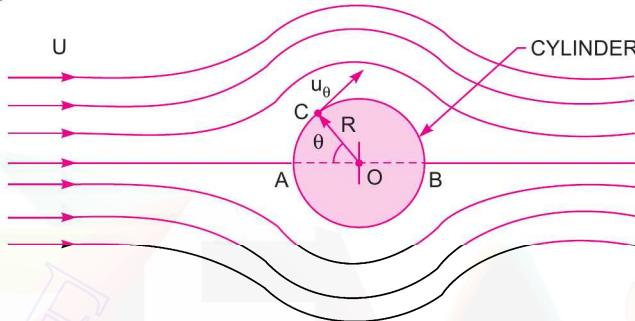
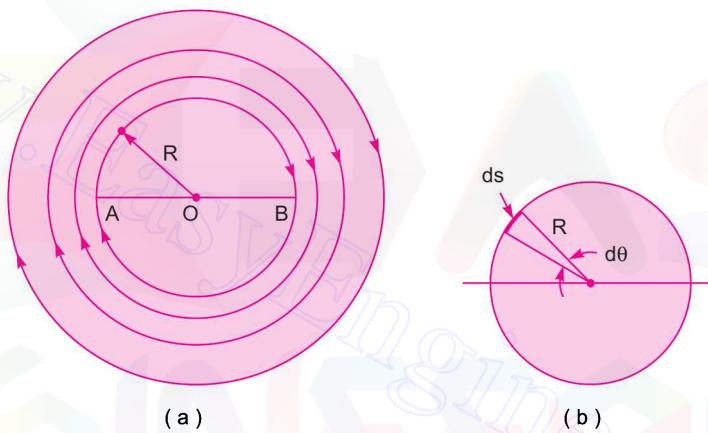
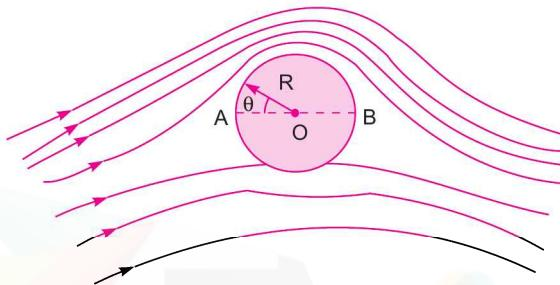

Fig. 14.9 Flow of ideal fluid over stationary cylinder.
Fig. 14.11 Stream-lines for free vortex.
Fig. 14.12 Flow pattern over a rotating cylinder.
**14.7.1 Flow of Ideal Fluid over Stationary Cylinder.** Consider the flow of an ideal fluid over a cylinder, which is stationary as shown in Fig. 14.9.
The flow-pattern for a free-vortex flow consists of streamlines which are series of concentric circles as shown in Fig. 14.11 (a).
In case of free-vortex flow, the stream velocity at any point on a circle of radius  $R$  is equal to the tangential velocity at that point. This means that angle between the stream-lines and tangent on the stream is zero. Also from Fig. 14.11 (b), the length of the element 'ds' is given as  $ds = Rd\theta$
**Flow over Cylinder due to Constant Circulation.** The flow pattern over a cylinder to which a constant circulation ( $\Gamma$ ) is imparted is obtained by combining the flow patterns shown in Figs. 14.9 and Fig. 14.11 (a). The resultant flow pattern is shown in Fig. 14.12. The velocity at any point on the surface of the cylinder is obtained by adding equations (14.12) and (14.14) as
**14.7.3 Expression for Lift Force Acting on Rotating Cylinder.** Let a cylinder is rotating in a uniform flow field. The resultant flow pattern will be as shown in Fig. 14.12. Consider a small length of the element on the surface of the cylinder.
**14.7.4 Drag Force Acting on a Rotating Cylinder.** The resultant flow pattern for a rotating cylinder in a uniform flow field is shown in Fig. 14.12. The resultant flow pattern is symmetrical about the vertical axis of the cylinder. Hence the velocity distribution and also pressure distribution is symmetrical about the vertical axis and as such there will be no drag on the cylinder.
Stagnation points are those points on the surface of the cylinder, where velocity is zero. For a rotating cylinder as shown in Fig. 14.12, the resultant velocity is given by equation (14.15) as